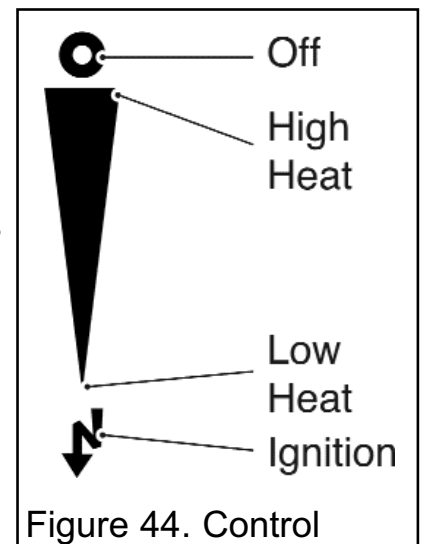

Figure 44. Control
The control position markings on the fascia are shown in figure 44.
4. Gradually slide the control knob up to increase the burner setting. The burner should be at its maximum setting at the high heat position shown in figure 44. You should feel a check to the control knob movement at this position.